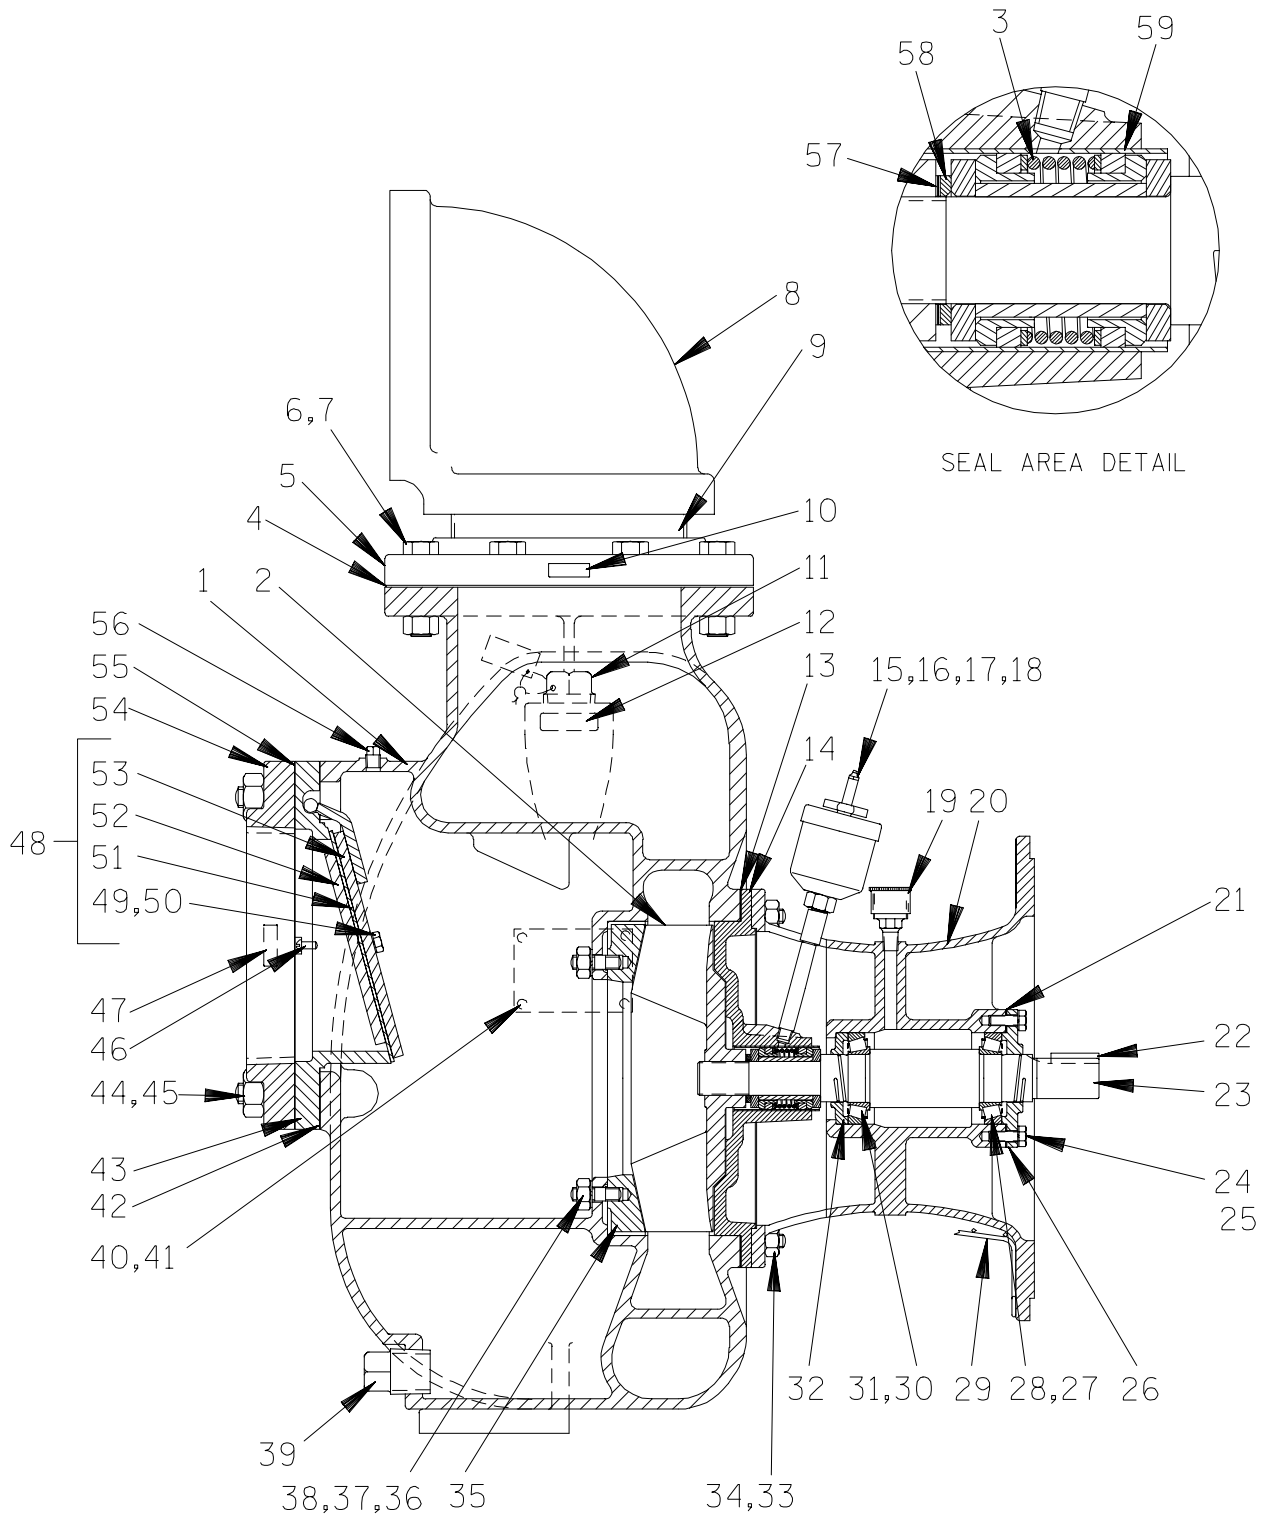

Figure 2. Pump End Assembly 88B2-(SAE 4/10)
#### (Figure 2)
As the assemblies separate, the flexible portion of the coupling assembly (3) will remain on the shaft. To remove the coupling from the shaft, unscrew the two allen head setscrews from the bushing (2). Screw one of the setscrews into the puller hole on the circumference of the bushing. As the coupling and bushing separate, remove the bushing, and slide the coupling off the shaft. Remove the shaft key (22, Figure 2).